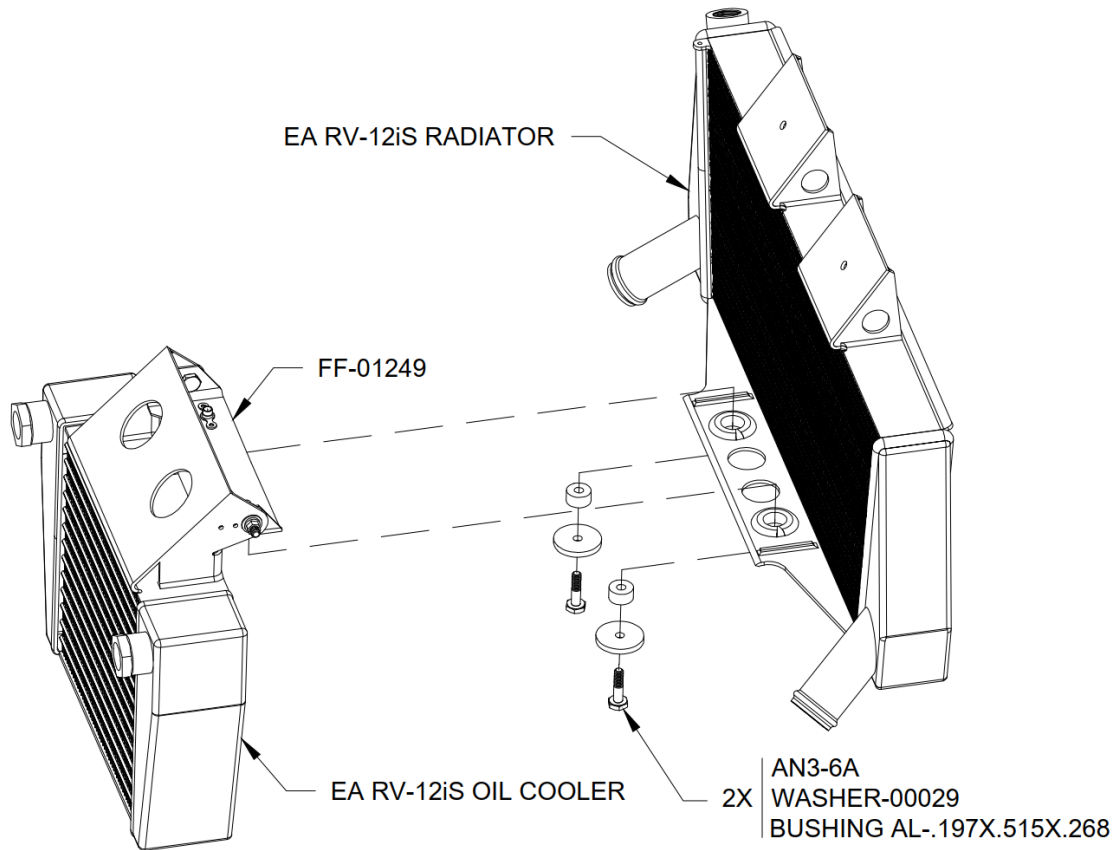

FIGURE 7: OIL COOLER ATTACHMENT
Step 6: Bolt the RV-12iS Radiator to the FF-01249 with the hardware shown in Figure 7. Resecure the FF-01231-1 Oil Cooler Mounting Bracket to the engine as shown in KAI 50iS/U.